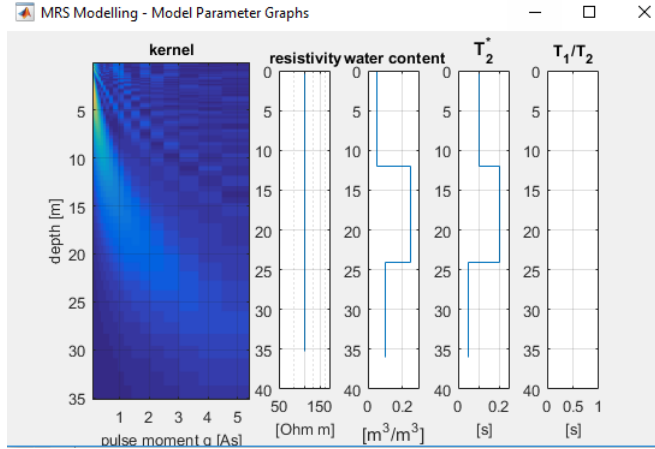

Figure 7: Model parameter window
- The **model parameter graph** (Fig. 7) shows the Kernel function (left), the assumed resistivity distribution and the groundwater distribution within the subsurface, as specified on the first window.